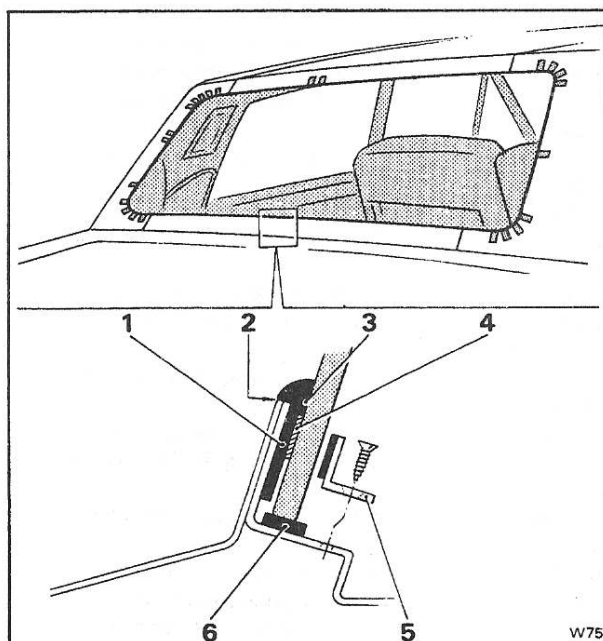

Fig. S152 Sealing and retaining the rear window (Silver Wraith II)
round the aperture then place strips of tape across the seal, especially in the corners, to facilitate its retention (see Fig. S152). Allow two to three hours for the adhesive to dry; full bond strength will be achieved in approximately forty-eight hours.
6. Remove the strips of tape, then apply a line of Prestik Sealing Strip 6,35 mm. (0.250 in.) wide around the inside of the aperture seal, approximately 9,50 mm. (0.375 in.) below the lip of the seal (see Fig. S152).
7. Using a sealant cartridge gun, apply an even and continuous bead of Arbomast Autograde Sealant or Seelastik between the Prestik and the lip of the seal filling in the gap between the two (see Fig. S152).